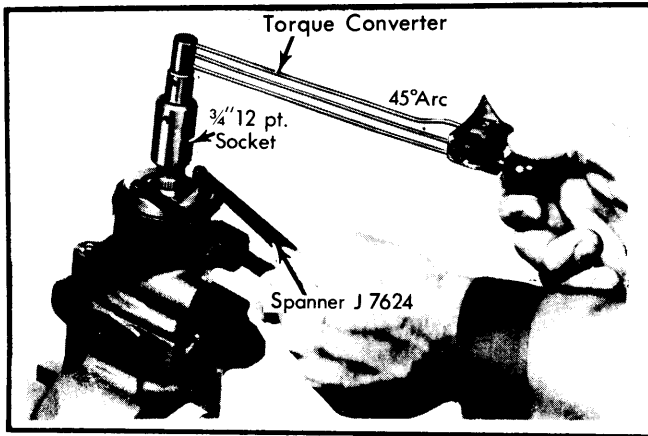

Fig. 2 Thrust Bearing Preload Adjustment (Large Gear Shown)
2) Scribe an index mark on housing and adjuster plug, then measure  $\frac{1}{2}$ " counterclockwise ( $\frac{3}{16}$ – $\frac{1}{4}$ " on American Motors models) and mark housing. Back up adjuster plug so mark aligns with new mark on housing and tighten lock nut while holding adjuster plug to maintain position. Check for 4-10 INCH Lbs. torque required to turn stub shaft. See Fig. 2.